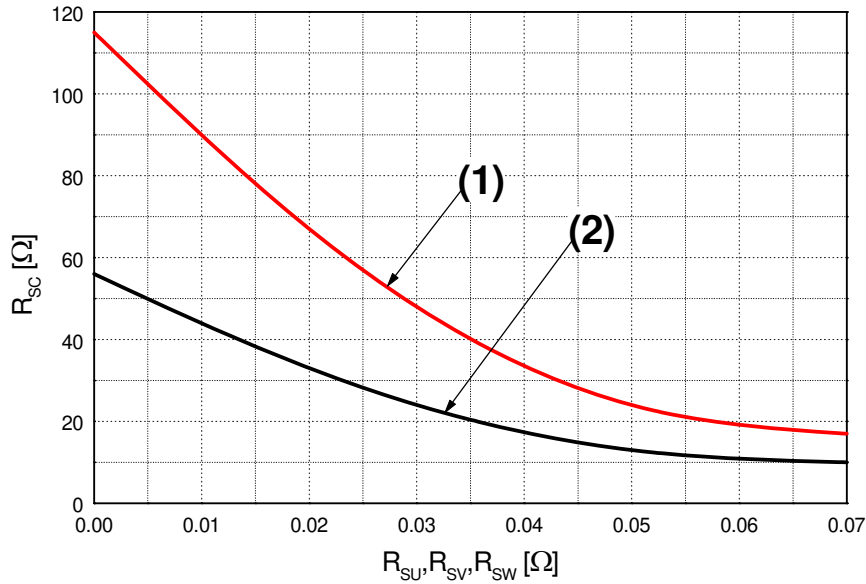

Figure 6. R_{SC} Variation by Change of Shunt Resistors (R_{SU} , R_{SV} , R_{SW}) for Short-Circuit Protection
- Short-circuit protection is functioning only at the low-sides. It would be recommended that the value of the external sensing resistor (R_{SC}) should be selected around 56 Ω in order to make the SC trip-level of about 30A at the shunt resistors (R_{SU}, R_{SV}, R_{SW}) of 0 Ω. For the detailed information about the relationship between the external sensing resistor (R_{SC}) and the shunt resistors (R_{SU}, R_{SV}, R_{SW}), please see Figure 6.